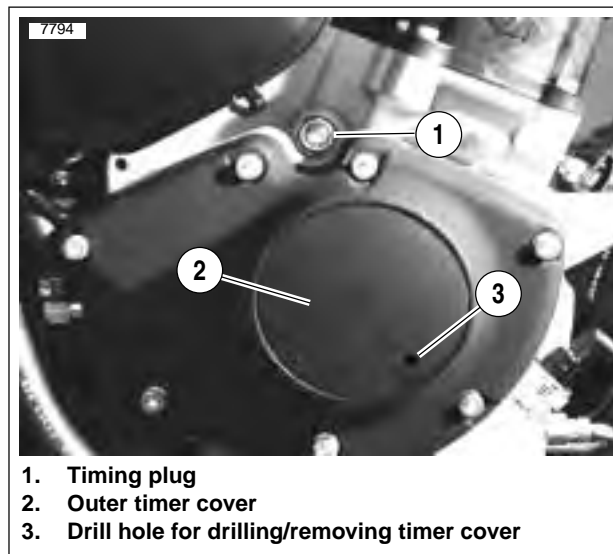

Figure 7-22. Timer Cover and Inspection Hole
1. See Figure 7-22. Locate outer timer cover on the gear-case cover on the right side of vehicle.
2. See Figure 7-22. Drill hole in outer timer cover at 5:00 position approximately 0.500 in. (13 mm) in from edge. Pull out outer timer cover using 90 degree pick or other suitable tool.
7. See Figure 7-22. Rotate rear wheel from **right** side of vehicle in direction of forward motion (clockwise) until TDC mark (vertical line) is centered in timing inspection hole.